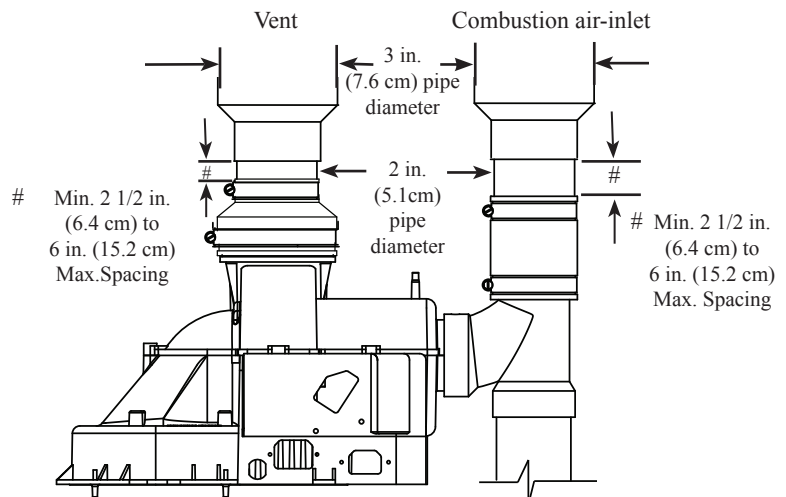

Figure 2
- Followed by a 2 in. (5.1 cm) to 3 in. (7.6 cm) diameter pipe increaser fitting (See Figure 2).